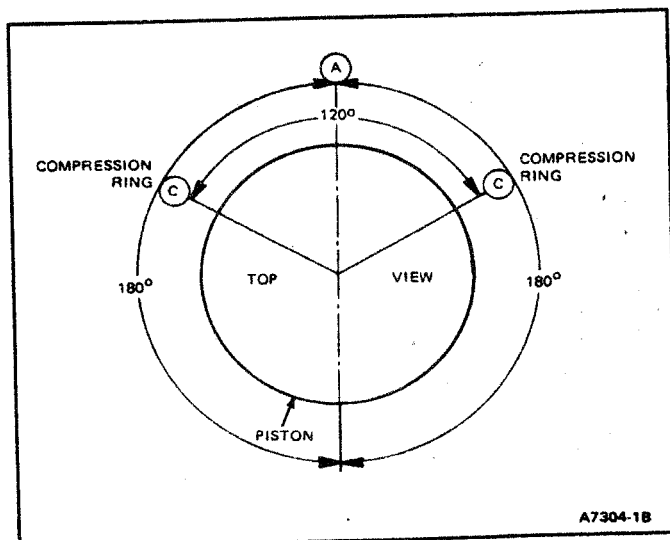

FIG. 64 Piston Ring Spacing
3. Make sure ring gaps (oil ring spacer-A, oil ring-B, compression ring-C) are properly spaced around circumference of piston (Fig. 64).